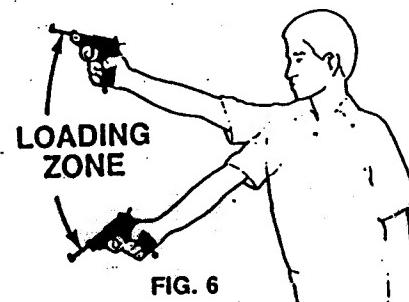

FIG. 6
- Your pistol has a gravity BB feed system. In order to allow BBs to move into the fire position, the pistol must be held within the loading zone shown in Fig. 6. Outside this zone you may not be able to fire a BB unless you have previously brought the pistol through the load zone. If you fire the gun and a BB doesn't come out of the barrel, don't assume the gun is empty. Hold the gun in a parallel position, (Fig. 8) shake it and resume firing at your target.